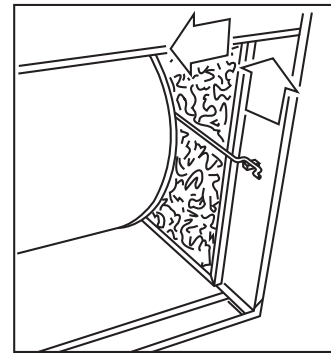
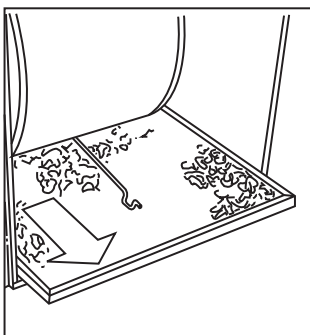

Fig. 27 - Release Filter Retaining Rod (Side Inlet)
Fig. 26 - Slide Filter Out (Bottom Inlet)
- d. Slide air filter out of furnace. See Fig. 26.
• AIR FILTER(S) LOCATED IN BLOWER COMPARTMENT SIDE:
- a. Remove filter retainer from latch. See Fig. 27.